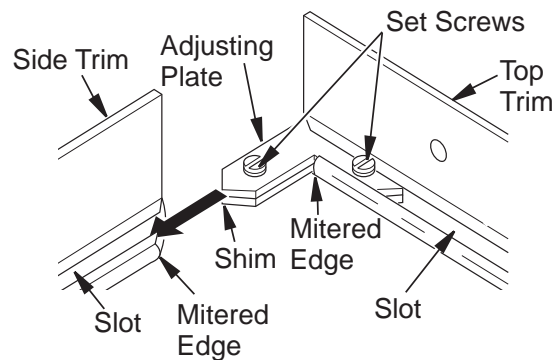

Figure 6 - Assembling Perimeter Trim
3. Align shim under adjusting plate as shown in **Figure 6**.
4. Slide one end of adjusting plate/shim in slot on mitered edge of top trim (see **Figure 6**).
5. Slide other end of adjusting plate/shim in slot on mitered edge of side trim (see **Figure 6**).